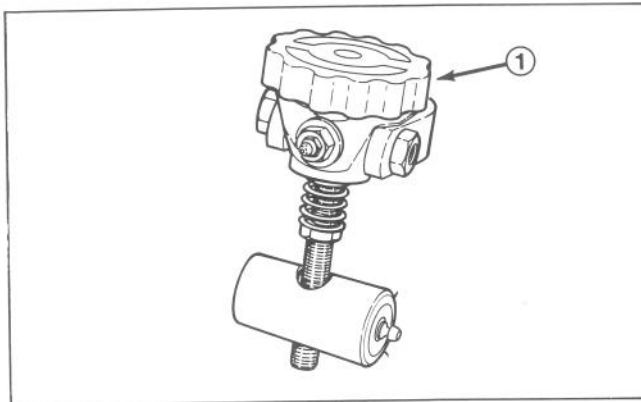
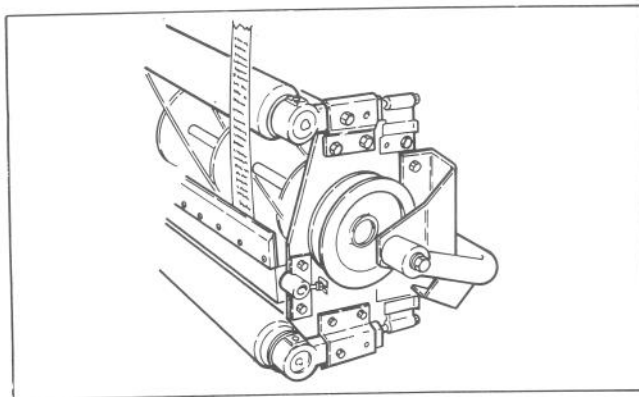

Figure 7
Figure 8
1. Make sure reel contact is removed by turning bedknife adjustment knob counterclockwise (Fig. 7). Tip cutting unit to gain access to reel and bedknife (Fig. 8).
2. On either end of reel, insert a long strip of dry newspaper between reel and bedknife. While slowly rotating reel into bedknife, turn bedknife adjusting knob clockwise, one click at a time until paper is pinched lightly, which results in a slight drag when paper is pulled (Fig. 8).